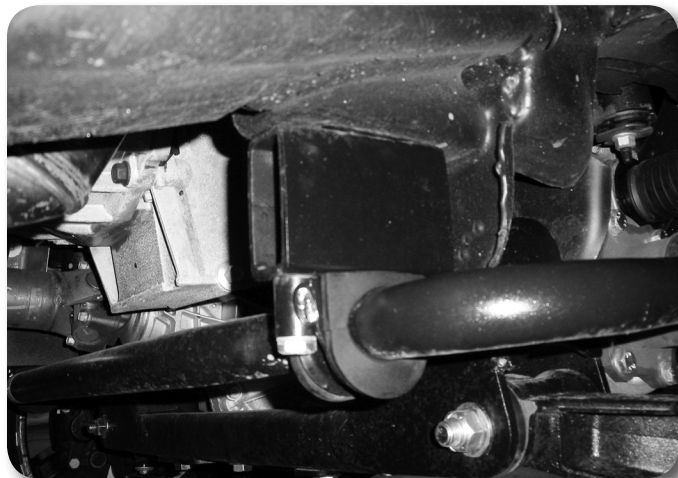

Figure 30
57. Attach the factory front sway bar to the original mounts in conjunction with the provided drop brackets and 10mm x 130mm bolts/washers. Use Loctite on the bolt threads and torque to 45 ft-lbs Figure 30.